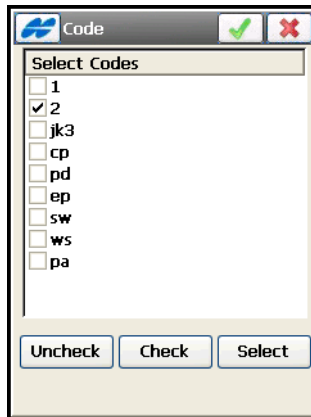

Figure 4-6. Select Code
- **Select** – opens the *Code* screen (Figure 4-6 on page 4-7).
The *Code* screen (Figure 4-6) contains a list of available codes. All codes that have been check marked are imported.